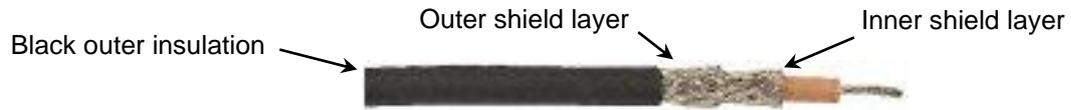

Figure 28. RG400 Co-Axial Antenna Cable
- The cable used for the Antenna should be high quality, such as RG400 (Shown in Figure 28). This cable has a double layer of shielding and better RF insulation than other cable types. Note that the coaxial cable included in most antenna kits tends to have a single layer of insulation. BNC connectors are recommended for most applications, and wherever possible crimped connectors which require a special crimper to assemble should be used. Crimped connectors are much less prone to RF leakage or assembly issues than other types (such as screw-together BNC connectors).